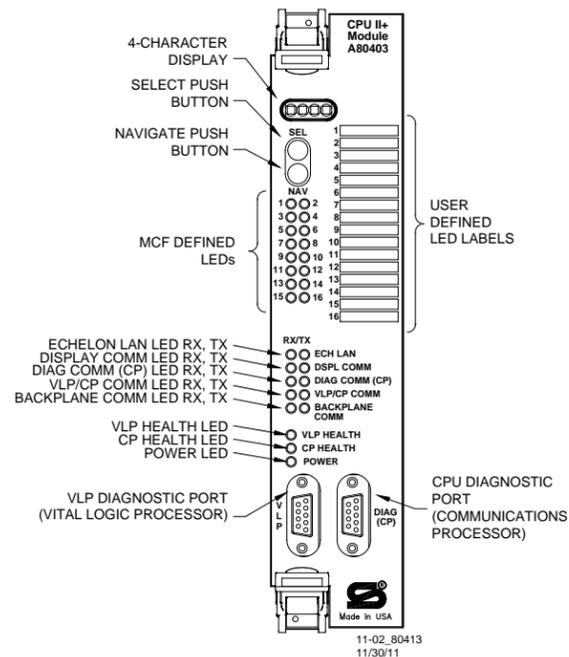

Figure 2: CPUii+ Module, A80403
1. Observe the face of the CPU Card. SGCP4000/MS4000 scrolls in the 4-Character Display (See Figure 2).